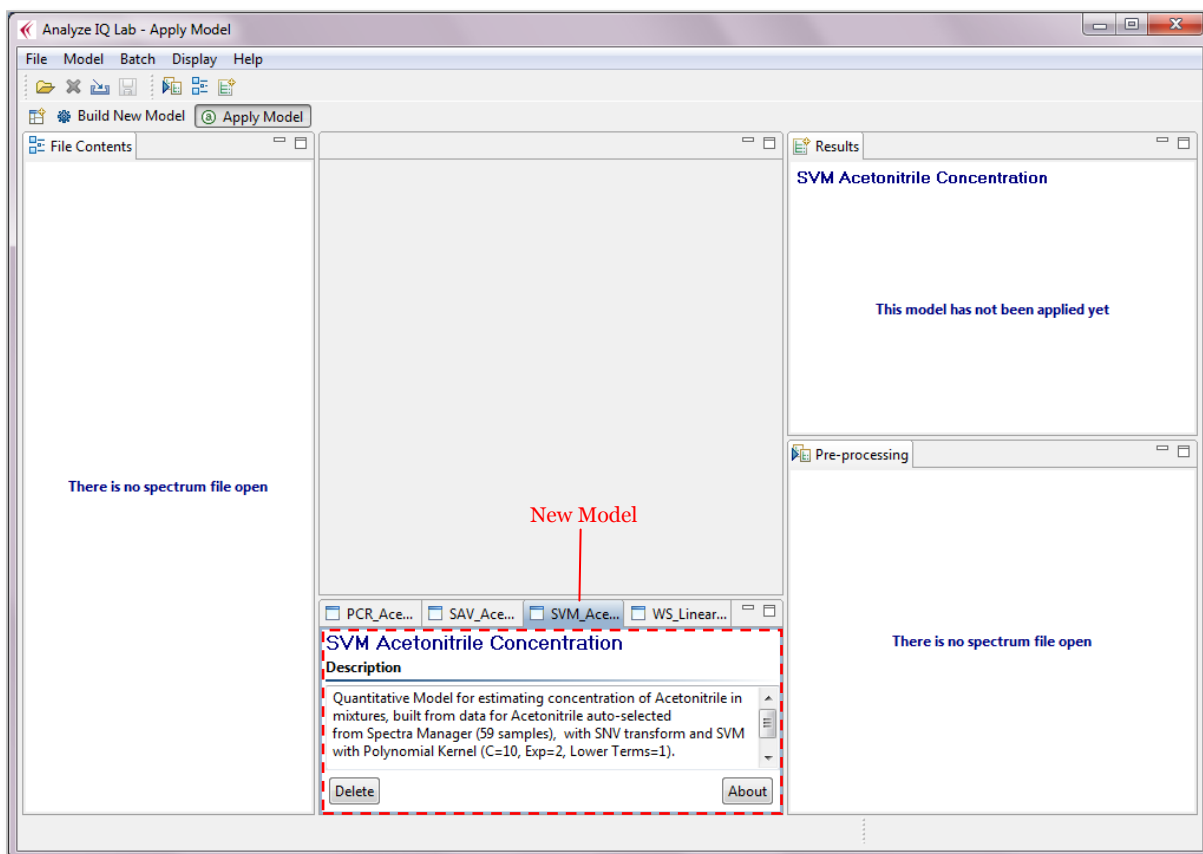

Figure 83: New quantification model added to Apply Model page
7. Click *Next* and switch to the *Apply Model* page t (see Figure 83).